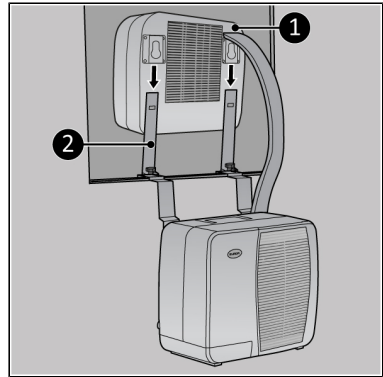

Figure 26.
2. Slide the indoor unit over the top caravan brackets (Figure 26, pos. 2).